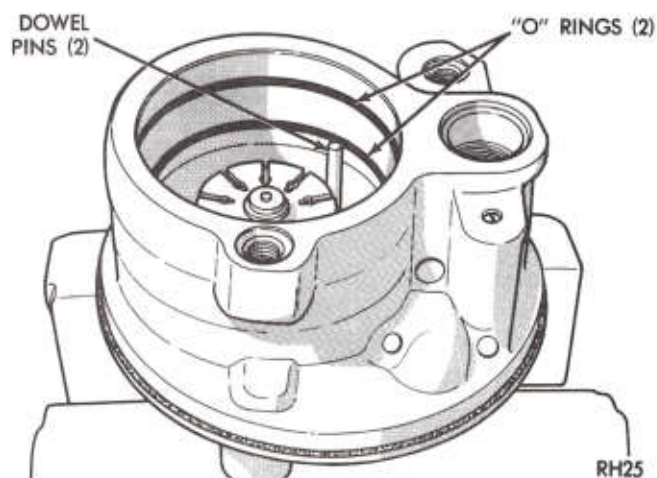

Fig. 13—Rotor and Thrust Plate Installed
(7) Install two dowel pins in holes in pump cavity. Carefully insert driveshaft, rotor and thrust plate assembly in pump cavity indexing locating holes with dowel pins (Fig. 13).